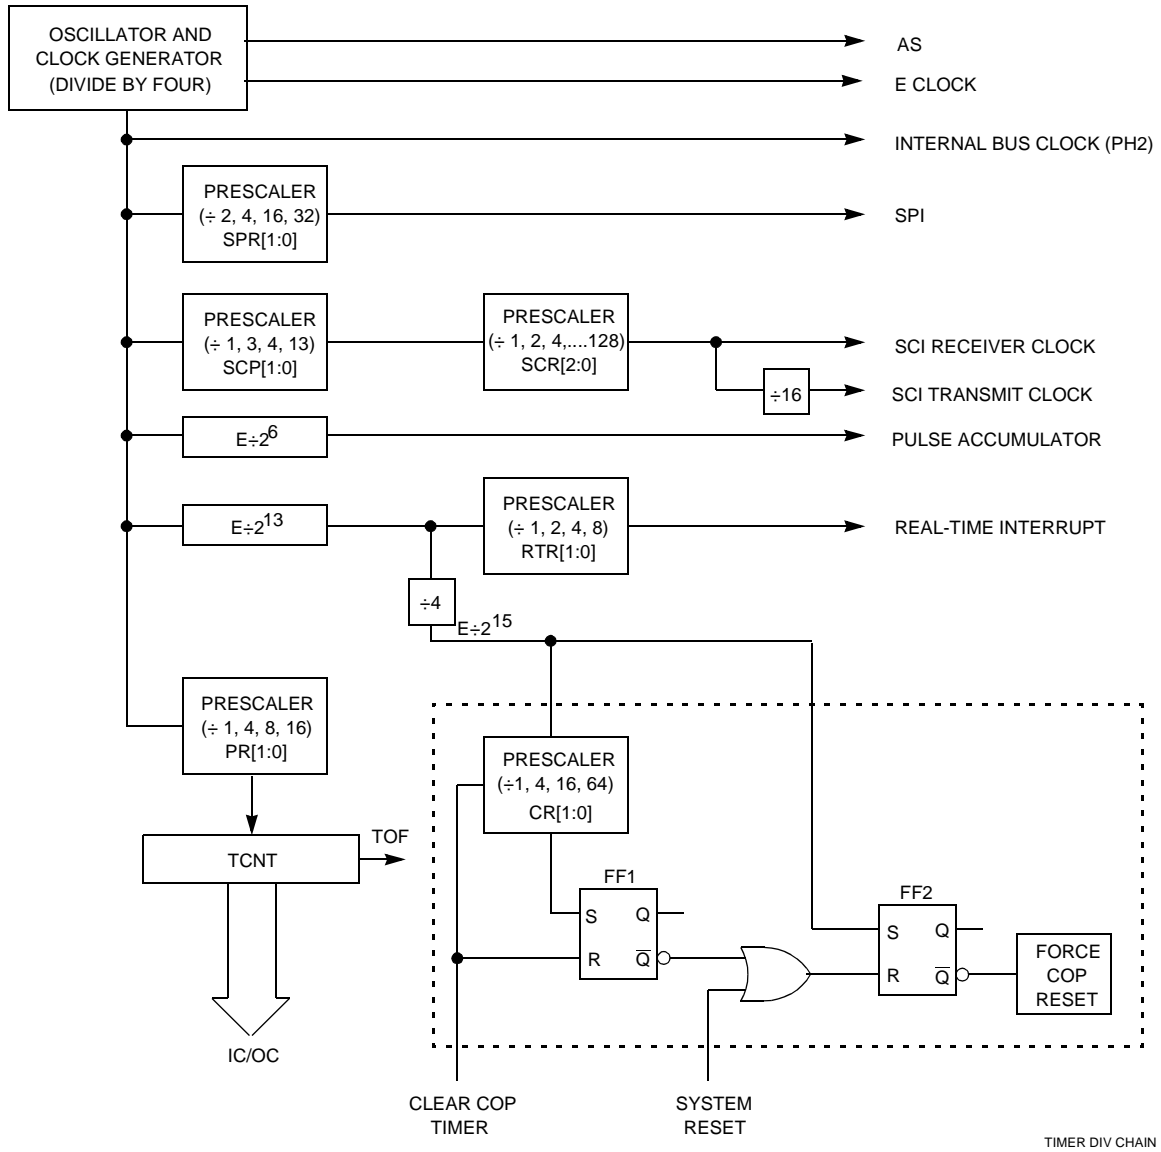

Figure 9-1 Timer Clock Divider Chains
The prescaler output divides the system clock by 1, 4, 8, or 16. Taps off of this main clocking chain drive circuitry that generates the slower clocks used by the pulse accumulator, the real-time interrupt (RTI), and the computer operating properly (COP) watchdog subsystems, also described in this section. Refer to **Figure 9-1**.
**Figure 9-1** shows the capture/compare system block diagram. The port A pin control block includes logic for timer functions and for general-purpose I/O. For pins PA2, PA1, and PA0, this block contains both the edge-detection logic and the control logic that enables the selection of which edge triggers an input capture. The digital level on PA[2:0] can be read at any time (read PORTA register), even if the pin is being used for the input capture function. Pins PA[6:4] are used for either general-purpose output, or as output compare pins. Pin PA3 can be used for general-purpose I/O, input capture 4, output compare 5, or output compare 1. When one of these pins is being used for an output compare function, it cannot be written directly as if it were a general-purpose output. Each of the output compare functions (OC5–OC2) is related to one of the port A output pins. Output compare one (OC1) has extra control logic, allowing it optional control of any combination of the PA[7:3] pins. The PA7 pin can be used as a general-purpose I/O pin, as an input to the pulse accumulator, or as an OC1 output pin.